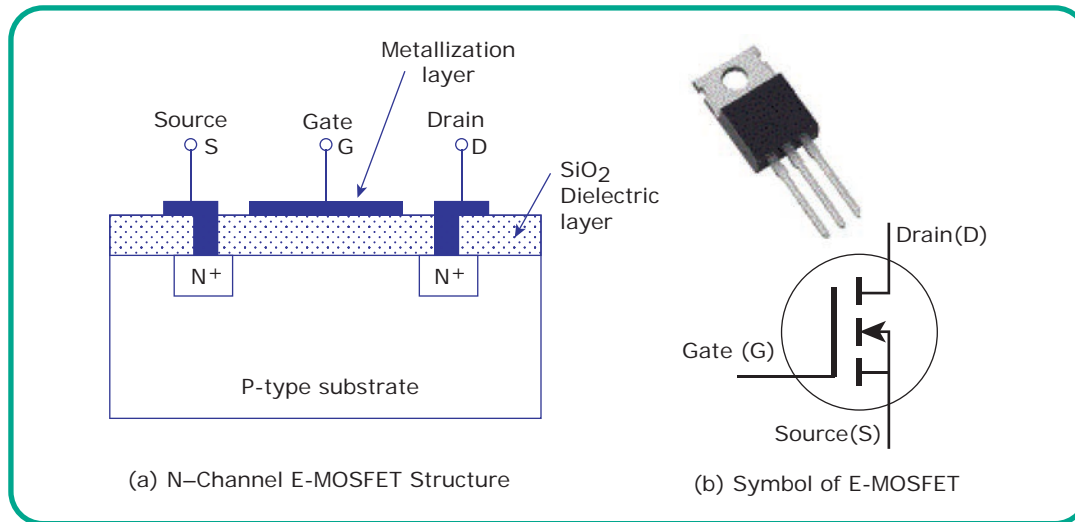

Figure 5.7 Construction of N-Channel E-MOSFET and Its Symbol
Figure 5.7 shows the construction and symbol of n-channel E-MOSFET. It consists of lightly doped P type substrate into which two highly doped N-type regions are diffused. These two N regions act as Source (S) and Drain (D). A thin layer of SiO_2 is grown over its surface then a metal contact is provided at the top of the SiO_2 layer, which acts as a Gate (G). The oxide layer provides high input impedance ($10^{10} \Omega$ to $10^{15} \Omega$) to the MOSFET.